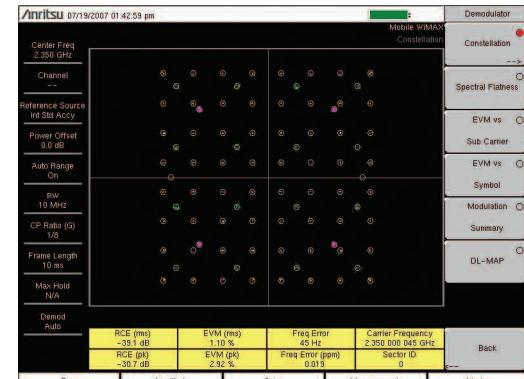

Figure 5. Constellation View with reference points turned ON.
7. Press the Reference Points soft key to switch them On or OFF (Figure 5).